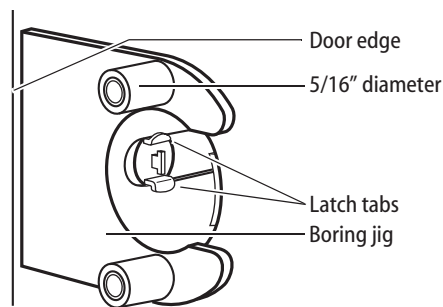

Figure 3 — Positioning the boring jig for drilling the 5/16" holes
- 4 Install the latch and check the door swing. Latch tabs should project into the 2 1/8" diameter hole. See Figure 3 in task 3.
- 1 Install the boring jig (KD303) onto the door and engage with latch tabs. Make sure the front edge of the jig is parallel with the door edge (see Figure 3).